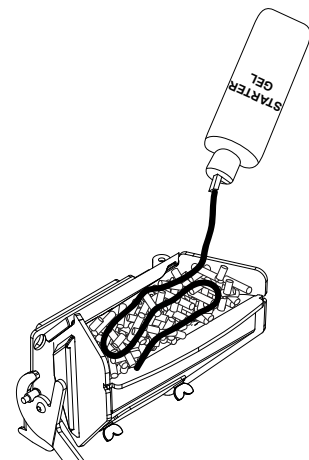

Figure 4.11
6. **Apply starting gel as shown in Figure 4.11.**